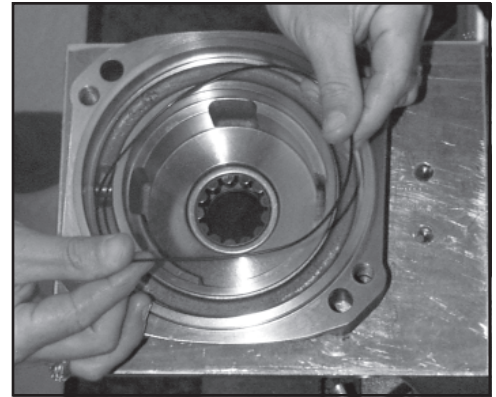

Figure D11
12. Remove and discard o-rings and back up rings from piston. *Note position of o-rings and back up rings. Install new o-rings and back up rings on piston in the same order as removed. SEE FIGURE D11*